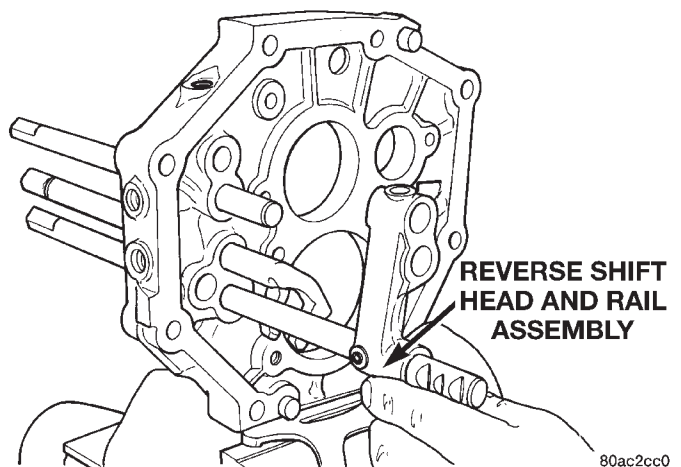

Fig. 69 Remove Reverse Shift Head And Rail Assembly
(25) Remove reverse shift head and rail assembly (Fig. 69).
(26) Remove snap-ring holding reverse shift rail into intermediate plate.